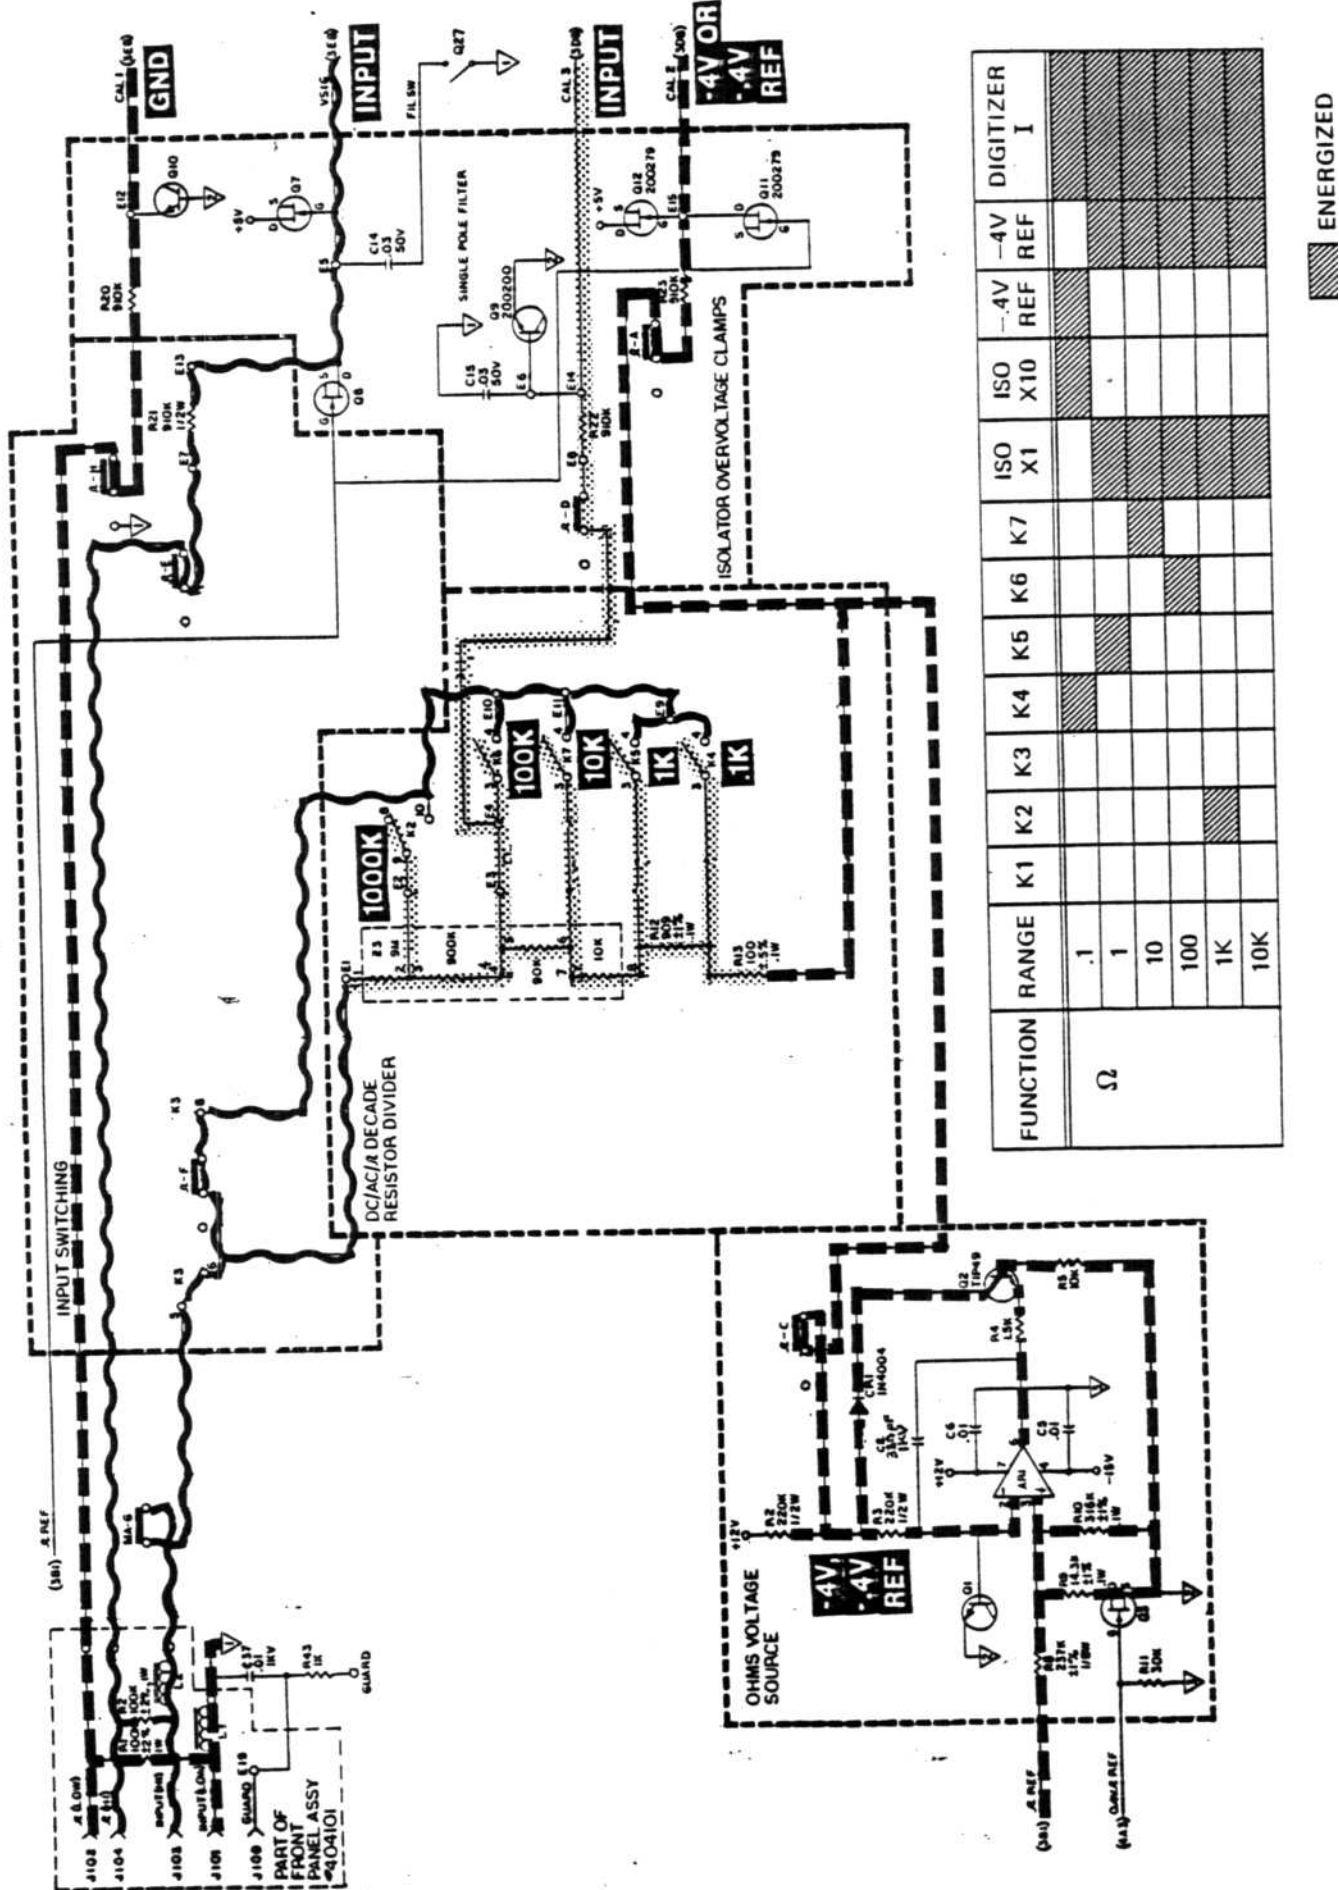

Figure 4.13 - 5001 Ohms Input Path with Schematic
4.4.6.3 Figure 4.12 shows two simplified diagrams for ohms measurement in the 5001: a) measurement for use in the .1 - 10 K range and b) measurement for use in the 100 K - 10 MEG ranges. In conjunction with these diagrams are the corresponding two expressions for determining R_X . For the meaning of VSIG, CAL 1, CAL 2 and CAL 3 function signals as noted in the diagrams, refer to paragraphs 4.4.6.4 and 4.4.6.5 as well as Figures 4.13 and 4.14 for greater detail.
4.4.6.7 **Switching and Attenuator Control** - in Ohms function, the 5001's μ P enables selection of the appropriate range resistor and relay in the reference decade resistor network. Refer to the chart in Figure 4.13. This reconfiguring of range resistors (Z1, R12, and R13) and